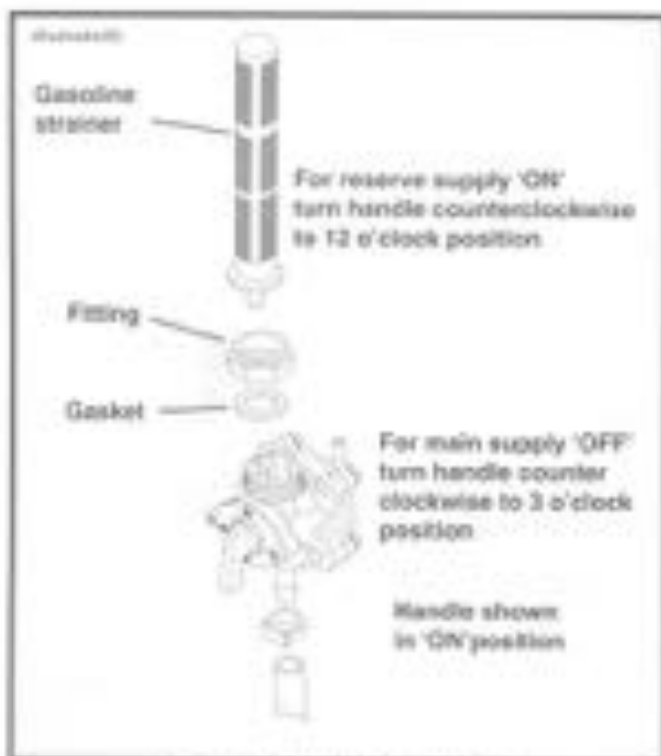

Figure 4-9, Fuel Supply Valve
GENERAL (Figure 4-9)
REMOVAL (Figure 4-9)
CLEANING, INSPECTION, AND REPAIR (Figure 4-9)
INSTALLATION (Figure 4-9)
1. See Figure 4-9. Turn fuel supply valve to OFF.
5. See Figure 4-9. If the fuel supply valve requires cleaning or repair, turn the valve fitting counter-clockwise to remove it from the fuel tank.